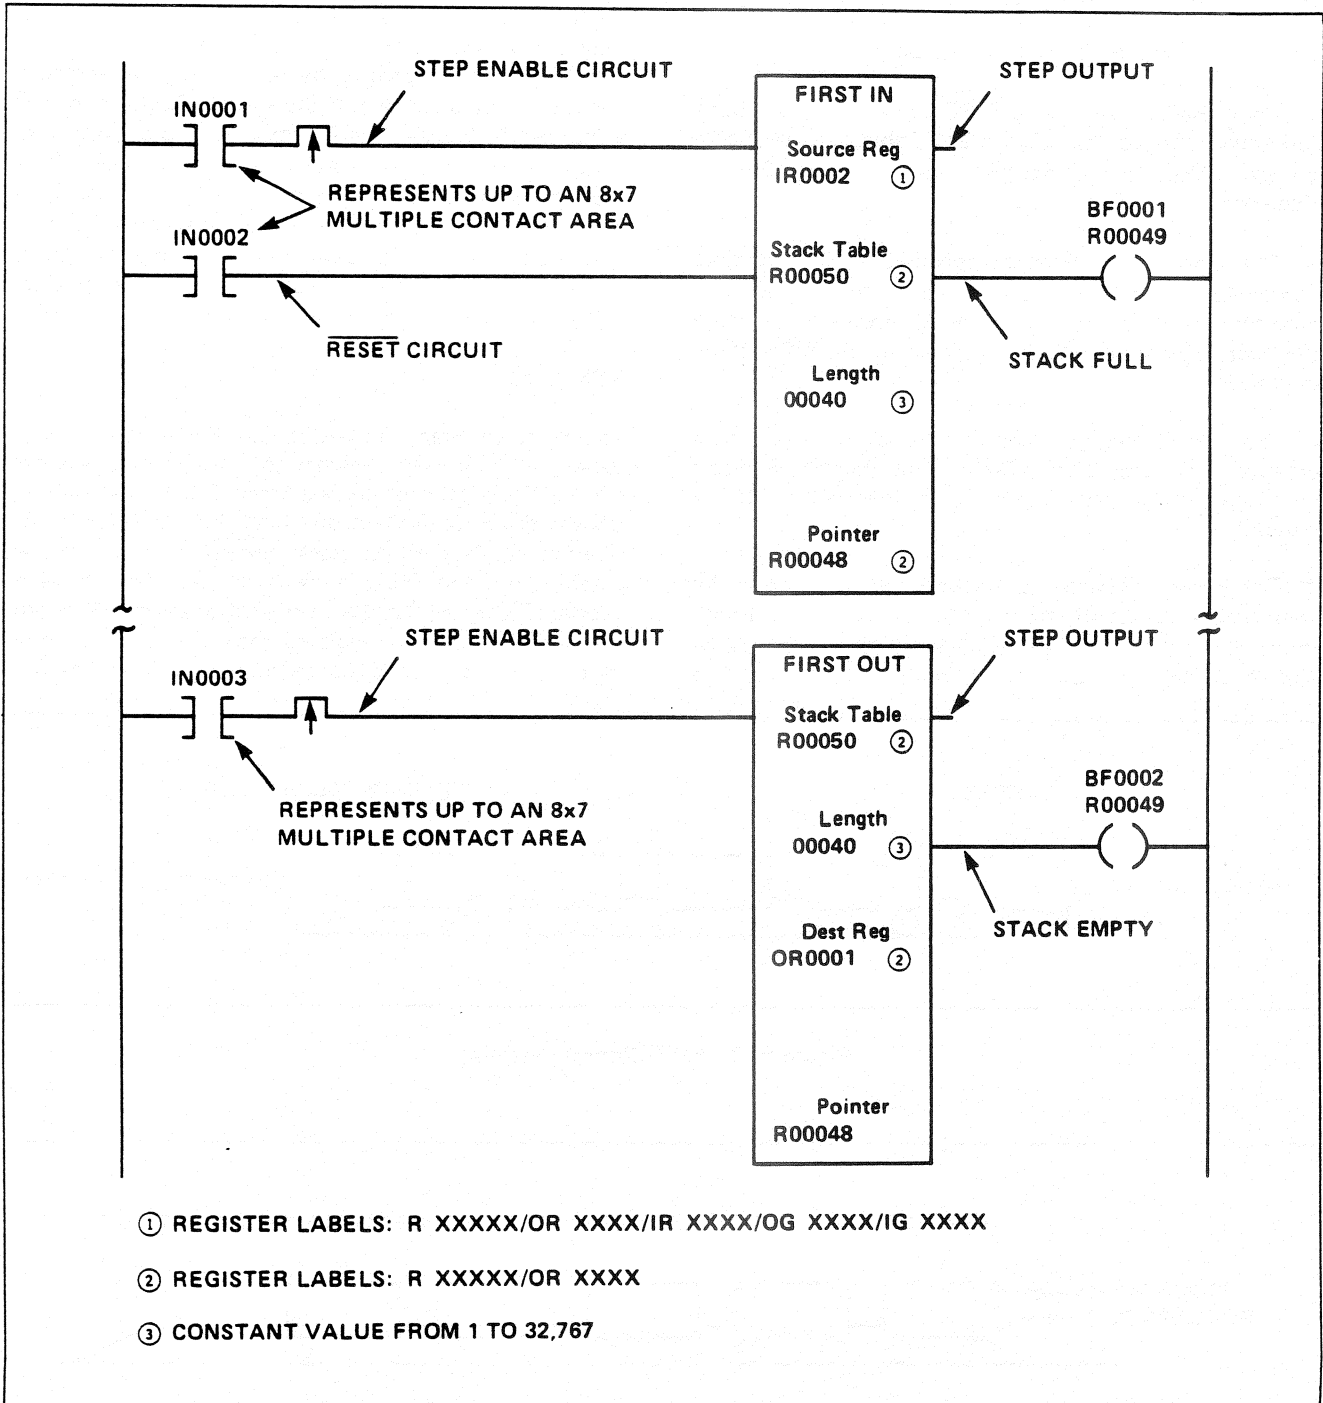

Figure FI-1. FIFO Stack Operation Circuit (Typical)
A typical circuit containing the First In Stack and First Out Fetch functions is shown in Figure FI-1. Observe the Figure and note the following 5 points:
Transitional functions (007) are used in the step enable circuit of Figure FI-1 to prevent incrementing or decrementing during each scan.